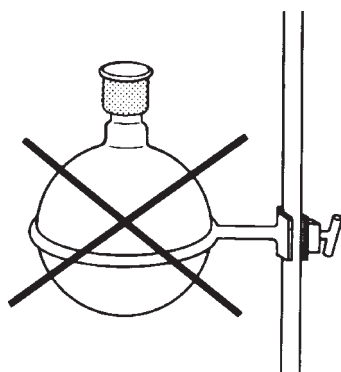

FIGURE 17.4 Flask in the iron ring.
4. *Never* place the flask in the ring without a screen (Fig. 17.4). The iron ring heats up faster than the flask, and the flask cracks in the nicest line you've ever seen around it. The bottom falls off, and the material is all over your shoes.